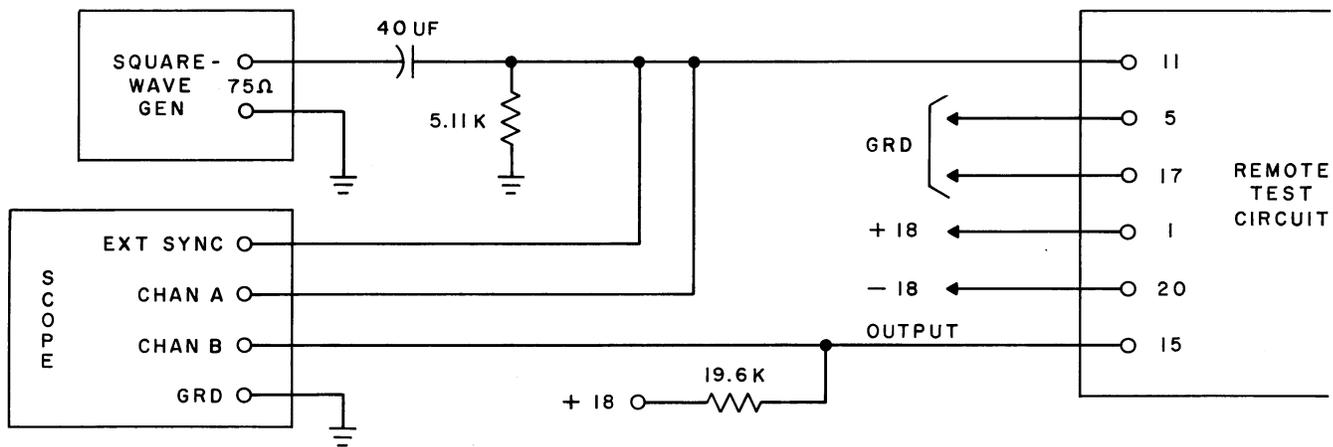

Fig. 45 - (Remote Circuit Card Test)
- (3) Remove the connection between test point 7 and ground. The ohmmeter should indicate an open circuit between terminal 15 and ground. Remove the connection between test point 13 and test point 8.
- (4) Connect the card as in the suggested test circuit shown in Fig. 45. Set the frequency of the square-wave generator to 10 cps ± 10 per cent.